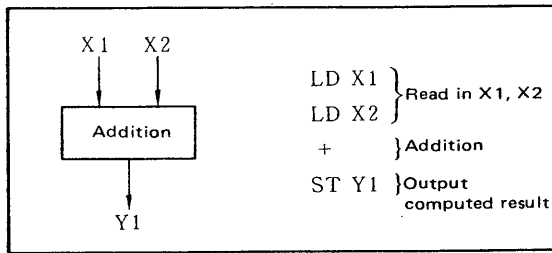
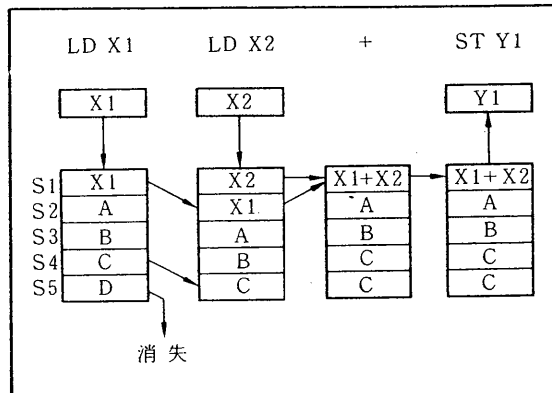

Figure 4-2-1. Two-input Arithmetic Unit and Program.
Figure 4-2-2. Program and Effect on Arithmetic Registers.
The SLPC performs three basic operations — reading the input signal, computation, and outputting the computed result. The example in Figure 4-2-1 shows how the addition of two input signals is programmed, and Figure 4-2-2 shows how the stack registers change during the program. Computations are performed in the common stack registers S. Connection of signals to the registers — that is, inputting to the S registers — is performed by means of the LOAD (LD) instruction. The S registers  $S_1$  thru  $S_5$  comprise a "stack", and data in S is pushed down ( $S_1$  to  $S_2$ , etc.) each time data is input by the LD instruction.